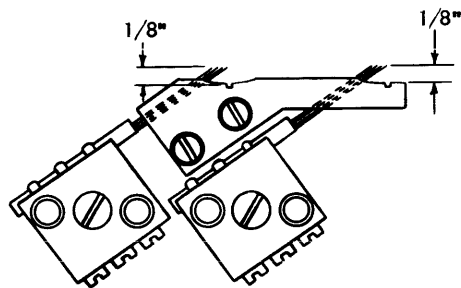

Figure 67. Carriage-Tape Brush Projection
1. Position the tape brushes for a 1" ($+1/32$ ", -0 ") projection from the brush holder (Figure 67). Hold the range of adjustment as close as possible because of possible difficulties in timing the stop brushes to the E-1 emitter.